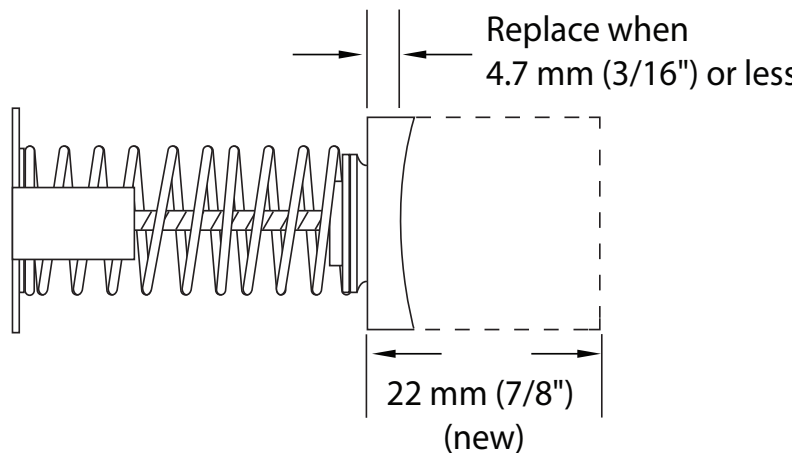

Figure 8.
2. See Figure 8. The brush assemblies must be replaced if they are 4.7mm (3/16") or less.